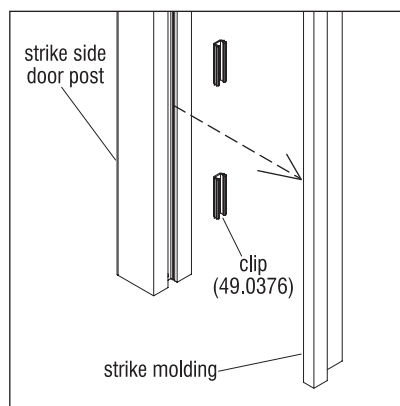

Figure 4 - Remove Strike Molding
4. Remove strike side molding and any remaining black plastic clips from the door post (Figure 4).